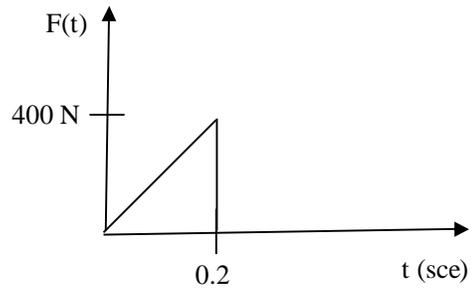

Fig.2
**(b)** A single spring mass system has spring constant of 750 N/m and mass of 7.5 kg. If it is loaded by an impulsive load as shown in the Figure 2, derive the equation of the response after completion of the impulse. **07**